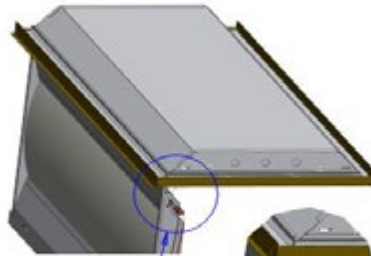

Fig.1.5
7. Wire the ground with a wire nut. Connect incoming power lines to fixture With provided disconnects (Fig.1.5).